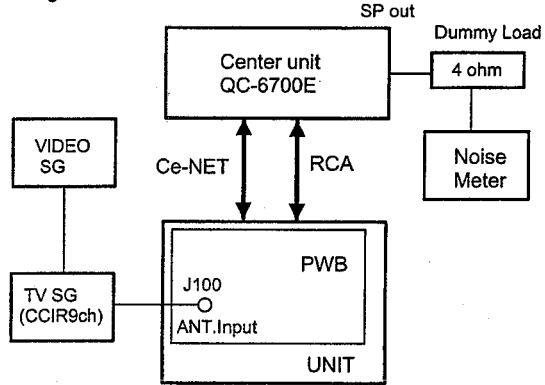

Fig.4
2. Adjust the VR501 so that the display level of the spectrum analyzer becomes 97dB  $\mu$  to test patan TP101.(Fig.4)